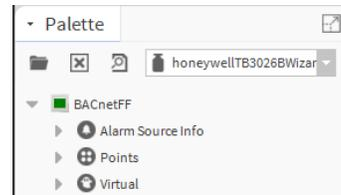

Figure 25: BACnetFF in Palette TAB
- After adding 'honeywellTB3026BWizard', it reflects in the 'Palette' tab as 'BACnetFF' as seen in Figure 25.